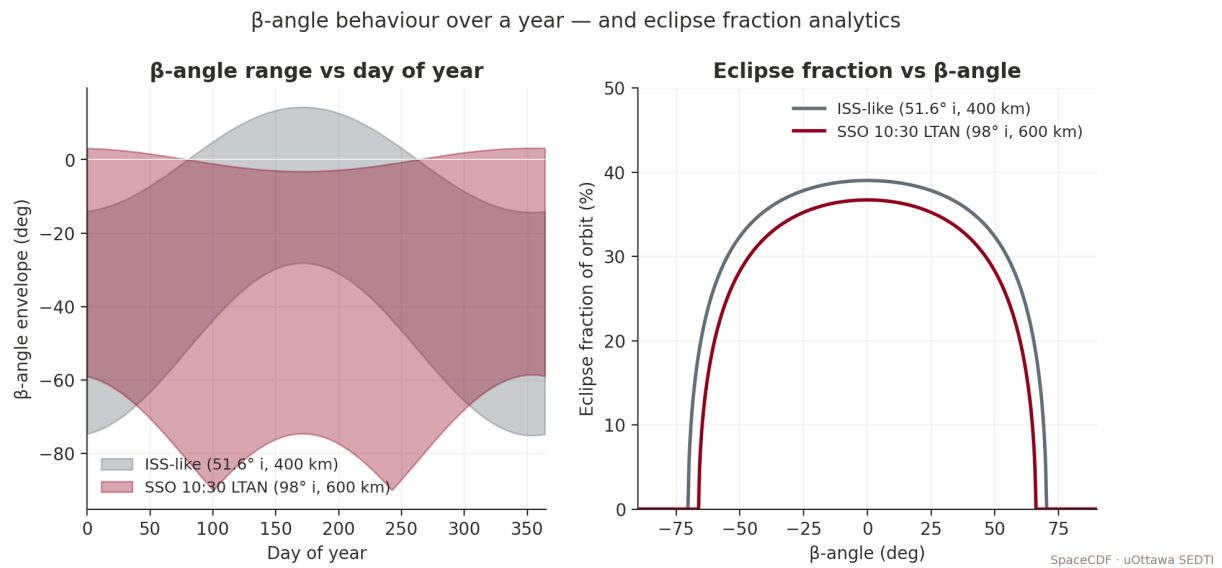

Figure 2.8 — β -angle range vs day of year (left) and eclipse fraction analytical curves (right) for an ISS-like and a 600 km SSO.
- β -angle and eclipse — see Figure 2.8.